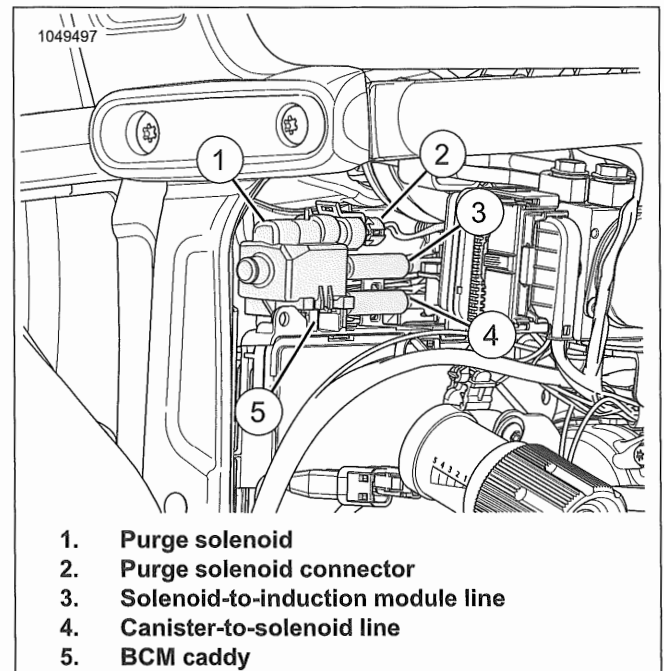

Figure 6-47. Purge Solenoid
1. See Figure 6-47. Remove purge solenoid.
- a. Disconnect purge solenoid connector (2).
- b. Remove solenoid-to-induction module and canister-to-solenoid lines (3, 4) from purge solenoid (1).
1. See Figure 6-47. Install purge solenoid.
- a. Install purge solenoid (1).
- c. Connect purge solenoid connector (2).